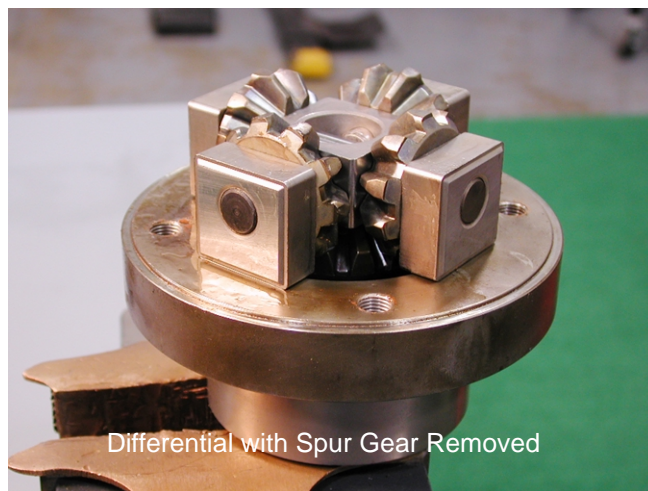

Figure 29
40. Remove the 60T spur gear from the center differential assembly. See Figure 29.
NOTE: Make certain the thrust miter blocks are orientated correctly during assembly. See Figure 29.